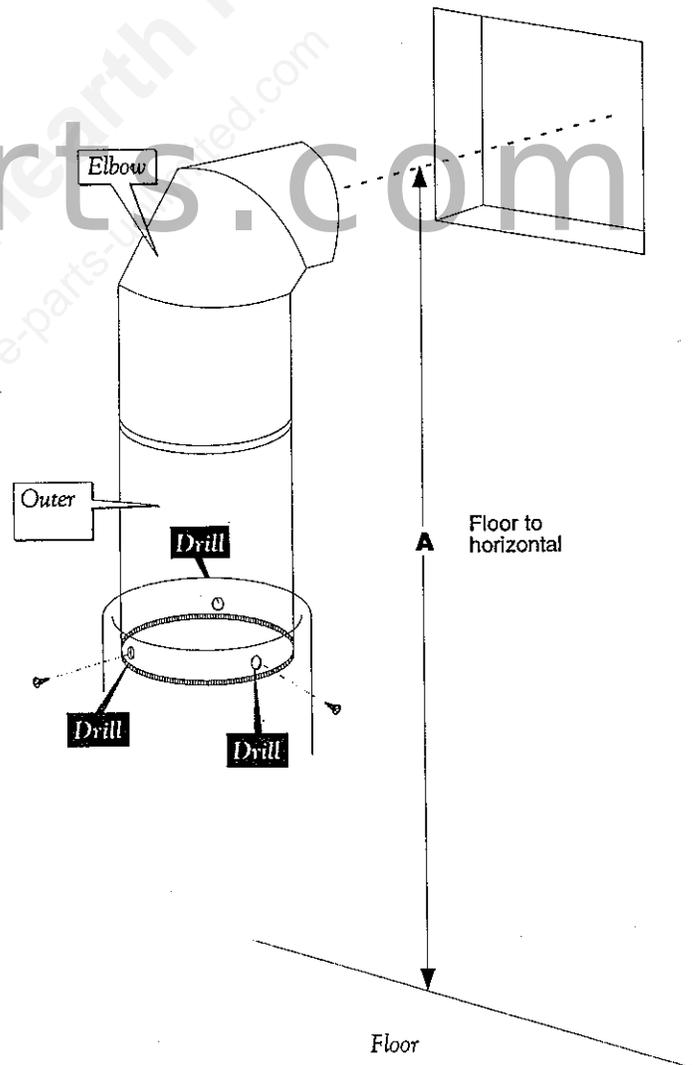

FIGURE 18. Drilling pilot holes and securing the outer adaptor
2. Make the opening: cut out and frame in a 10 1/2" x 10 1/2" hole in the wall, centered on dimension A. Figure 18. Make sure that the interior and exterior cutouts are level with each other.
4. Place the outer adaptor pipe in the flue collar. If necessary, insert and engage an elbow into the outer adaptor pipe and rotate the pipe assembly so that the opening of the elbow is facing in the correct direction for connection to the vent terminus. It must be perpendicular to the wall surface. Drill .14" (3.5 mm, or Size 28) pilot holes into the pipe through the three existing screw holes in the flue collar. Be careful not to drill through the inner adaptor pipe. Secure the outer adaptor with three #10 x 1" phillips head sheet metal screws which you will find in the parts bag. Figure 18.